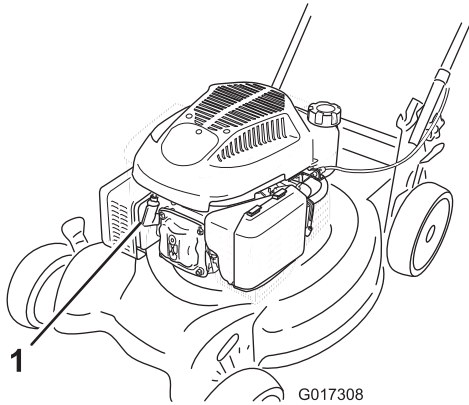

Figure 19
3. Disconnect the spark-plug wire from the spark plug (Figure 19) before performing any maintenance procedure.